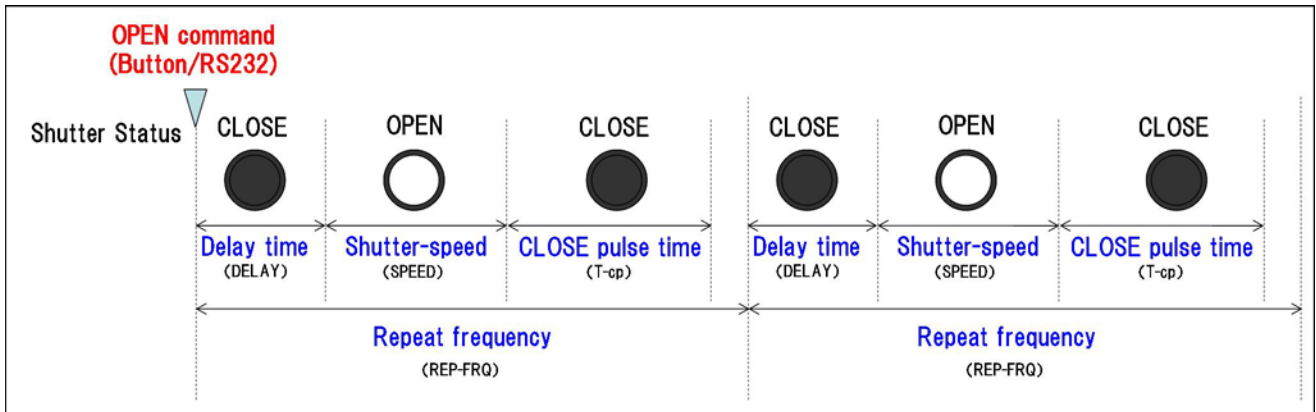

Fig. 3-2 Timer mode operation of the TYPE-B shutter setting
- ① Delay time: Timer mode is the waiting time to give a signal to open the shutter actually from giving an OPEN command. External input for commands is not taken into account in the delay time.
- ② Shutter-speed: how long the shutter stays open. More precisely, the shutter speed is the time from the start of the shutter's OPEN pulse signal to the CLOSE command. In case of setting shutter speed by 10 sec or more, the number of repetitions will be automatically one.
- ③ Repeat frequency (REP-FRQ): REP-FRQ is equivalent to the time required for the opening and closing once. As setting the frequency of repetition, the ratio of opening and closing is determined by the relationship of the shutter speed and the frequency of repetition. In addition, when using the TYPE-B shutter, it is the relationship like Fig.3-2 that the shutter closing motion is entered.
- ④ Repeat count (REP-CNT): The number of times to open and close the shutter repeatedly. When the number of repetitions is set, it repeats open and close automatically as long as you do not provide the CLOSE command to give an OPEN command once. A single OPEN command will carry out the specified number of times for opening and closing the shutter.